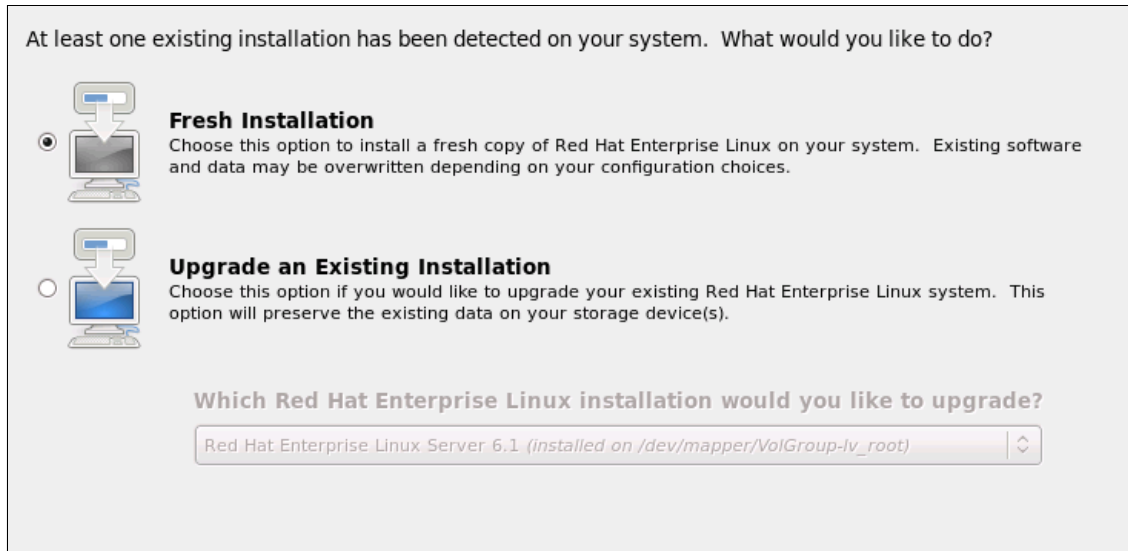

Figure 12-41 Select a fresh installation or an upgrade to an existing installation
11. Select **Fresh Installation** (overwriting any existing installation) or **Upgrade an Existing Installation**, as shown in Figure 12-41.